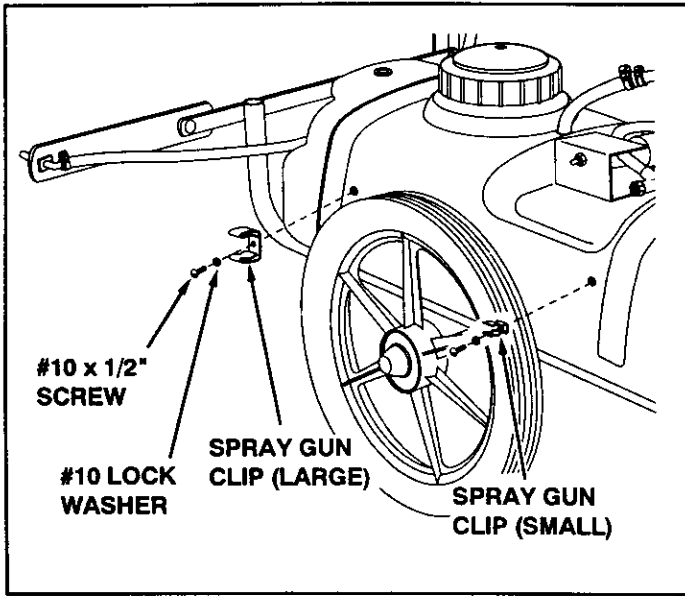

FIGURE 8
- Assemble the large and small spray gun clips to the side of the tank using two #10 x 1/2" screws and #10 lock washers. See figure 8.
- Wrap the hose around the top of tank and snap the spray gun into the clips on the front of the tank. (The large clip holds the spray gun handle and the small clip holds the wand.) Refer to figure 8.